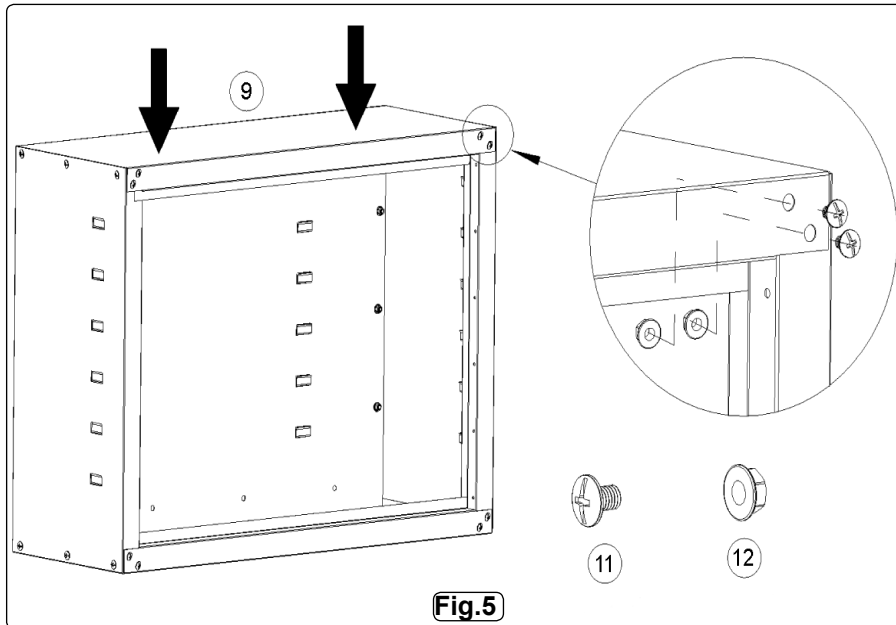

Fig.5
3.3.4 Top Panel Assembly (Fig.5)